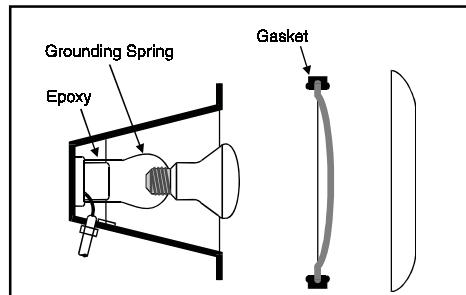

Figure 2.
4. Disassemble light fixture and remove bulb. Remove and discard old gasket; see Figure 2.